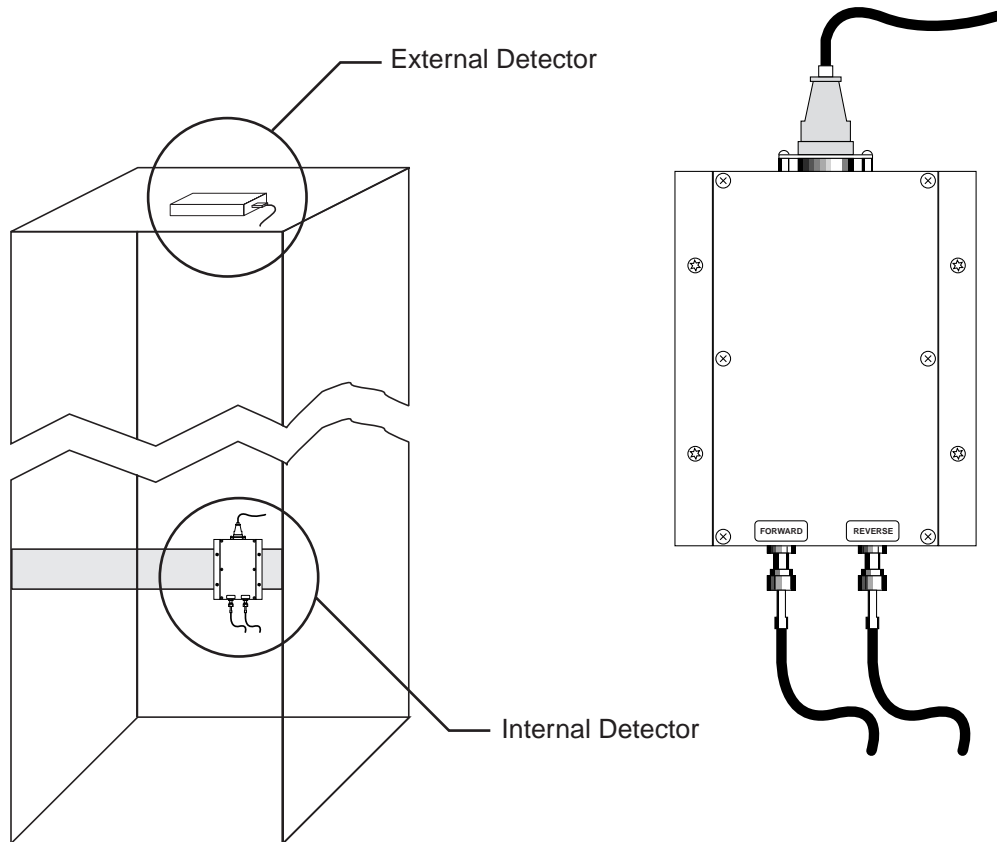

Figure 6-15: Detector Locations
1. Using a straight blade screwdriver, loosen the two screws and disconnect the DB9 connector (see Figure 6-15).